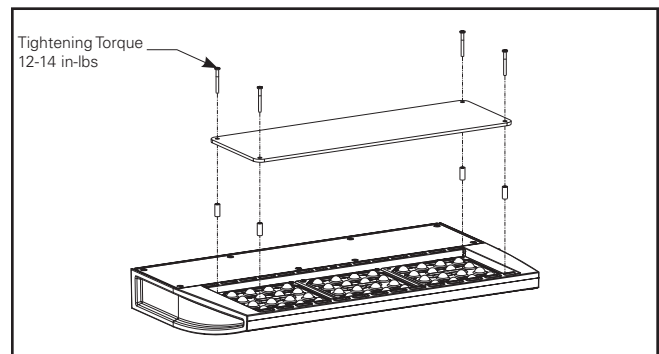

Figure 12.
1. Loosen and remove the existing (4) 8-32 screws on the face of the fixture (Figure 12).
2. Align (4) 7/8" long spacers with existing holes (4).
3. Use (4) 8-32 x 1-1/2" screws to secure vandal shield on top of fixture.